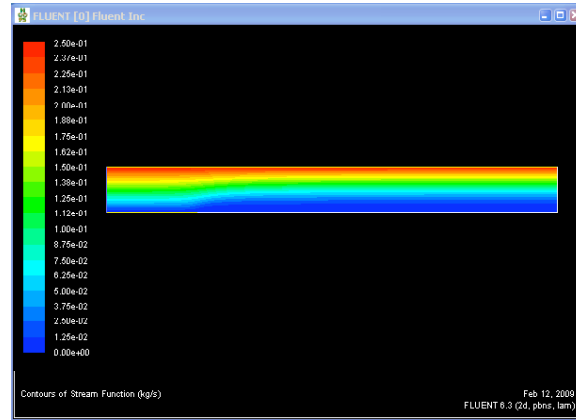

Figure 15 Stream Function
- To display a velocity vector plot, you can click on **Display/Velocity Vector**, then the **Velocity Vectors** panel will show up (Fig. 15).